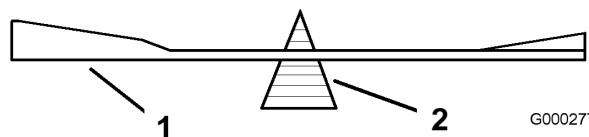
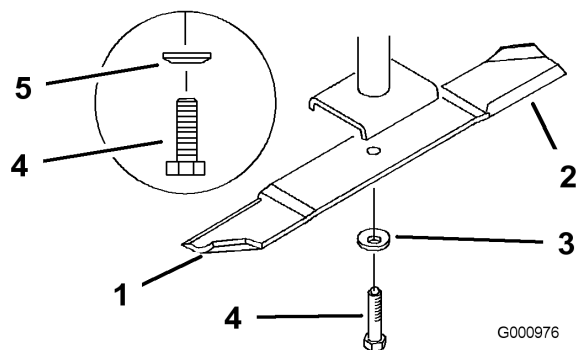

Figure 67
Figure 68
2. Remove the blade bolt, spring disk and blade from the spindle shaft (Figure 68).
2. Check the balance of the blade by putting it on a blade balancer (Figure 67). If the blade stays in a horizontal position, the blade is balanced and can be used. If the blade is not balanced, file some metal off the end of the sail area only (Figure 68). Repeat this procedure until the blade is balanced.
1. Install the blade onto the spindle shaft (Figure 68).
2. Install the spring disk and blade bolt. The spring disk cone must be installed toward the bolt head (Figure 68). Torque the blade bolt to 85-110 ft-lb (115-150 N•m).